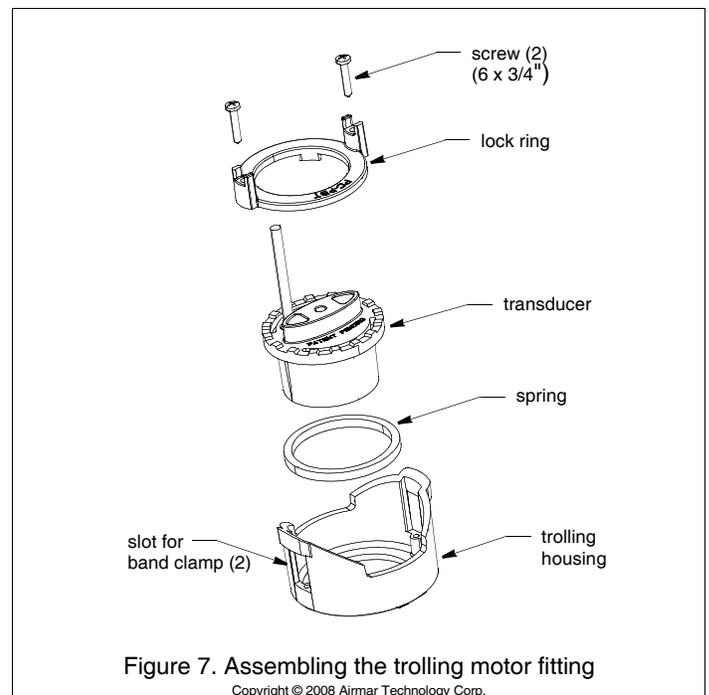

Figure 7. Assembling the trolling motor fitting
2. Insert the spring and transducer in the trolling fitting (see Figure 7). Be sure the boss on the fitting engages the groove in the transducer.
2. Loosen the screw in the band clamp so that one end of the band is free. Pass the free end through the two slots in the trolling fitting (see Figure 7).